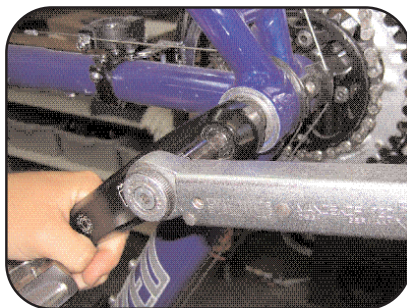
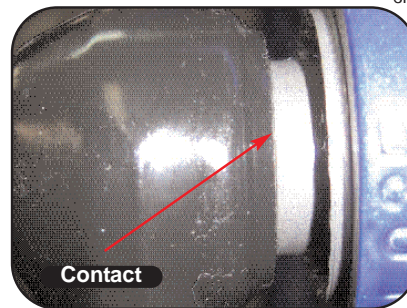

FIGURE 5: Tighten crank bolt with torque wrench to: 28-31 ft-lbs (38-42 N-m, 387-429 Kgf-cm)
FIGURE 6: When correctly installed the crankarm stop-surface contacts the bottom bracket crank-stop.
STEP 4: Install the crank bolt and tighten to 28-31 ft-lbs (38-42 N-m, 387-429 Kgf-cm) as shown below in Figure 5. After tightening the crank bolt, check to ensure that the crankarm stop-surface is contacting the bottom bracket crank-stop as shown below in Figure 6. If it is not then you must remove the crankarm and repeat Steps 2 through 4.